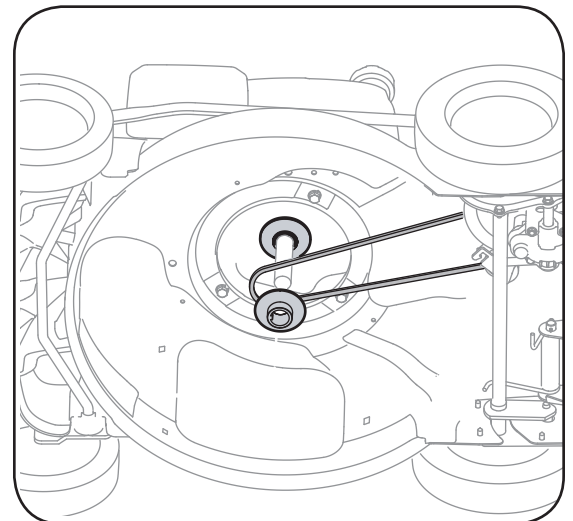

Figure 5-9: Place upper pulley on crankshaft, loop belt around crankshaft, then install the lower pulley.
18. Place the belt between the two pulley halves on the crankshaft, Figure 5-9.